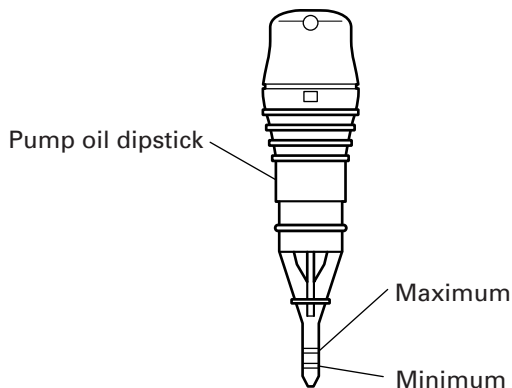

Fig. 2
- (1) Read safety warnings before setting-up this compressor.
- (2) Ensure the oil level in this compressor pump is adequate. If the oil level is low, replenish oil through the filling hole so that the amount of oil will come to a point between the maximum notch and the minimum notch on the pump oil dipstick according to the following OIL TYPE CHART. (Fig. 2)
- (1) The pump oil dipstick will register the amount of oil in the pump. (Fig. 2) Oil level should be checked on a daily basis to ensure it does not exceed the maximum notch or does not fall below the minimum notch on the pump oil dipstick. If the oil level is low, replenish oil through the filling hole so that the amount of oil will come to a point between the maximum notch and the minimum notch on the pump oil dipstick according to the OIL TYPE CHART on page 9.